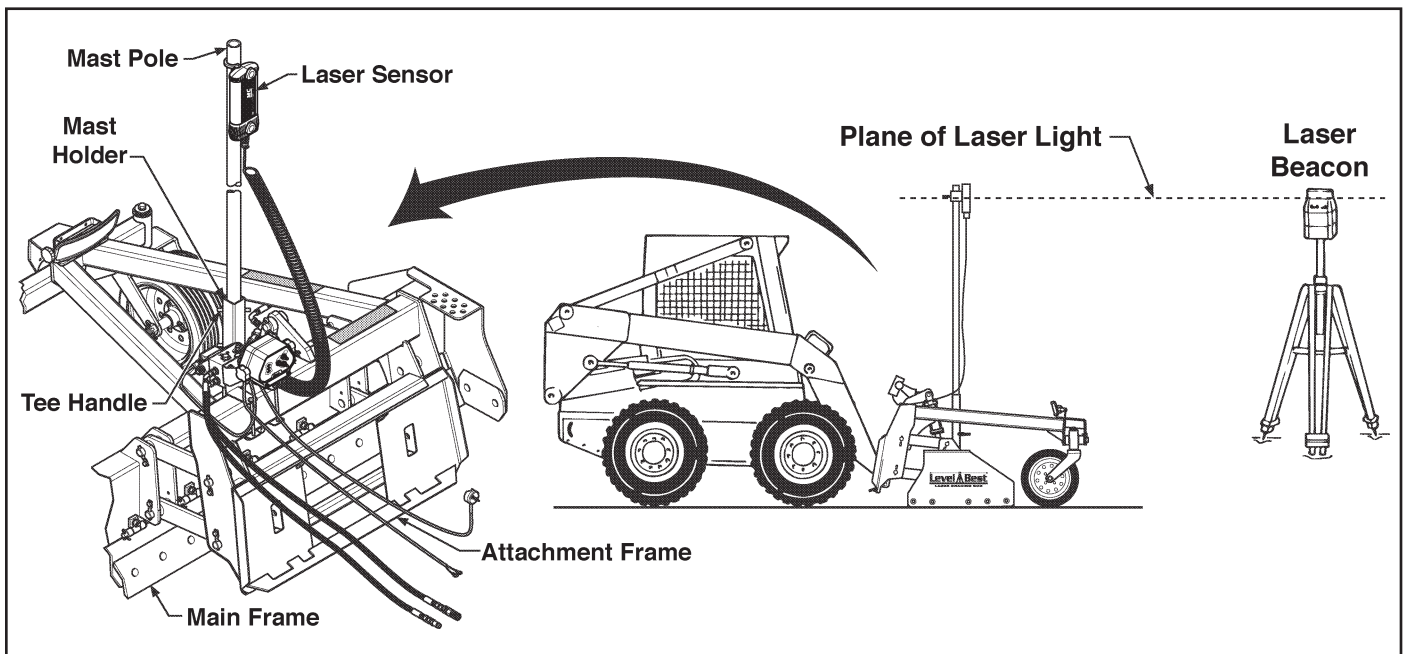

Figure 3. Components of the Automatic Control System on a Skid Steer
6. Insert the mast pole in the holder until it rests at the bottom of the tube. Tighten the tee handle to secure the mast. Clamp the Laser Sensor near the top of the mast so it is higher than any local obstruction including the skid steer cab or fall protection devices. (Refer to Figure 3).